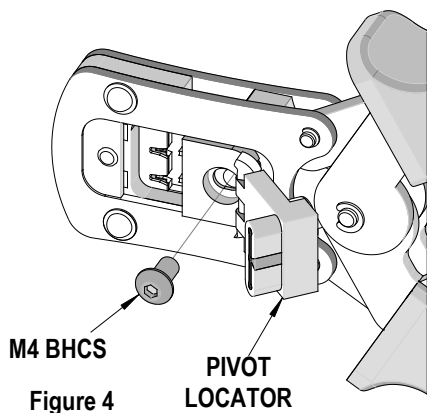

Figure 4
2. Remove the M4 BHCS. See Figure 4.
1. Place the proper locator, (See Chart on page 2), on the hand tool. Install the M4 BHCS. See Figure 4.